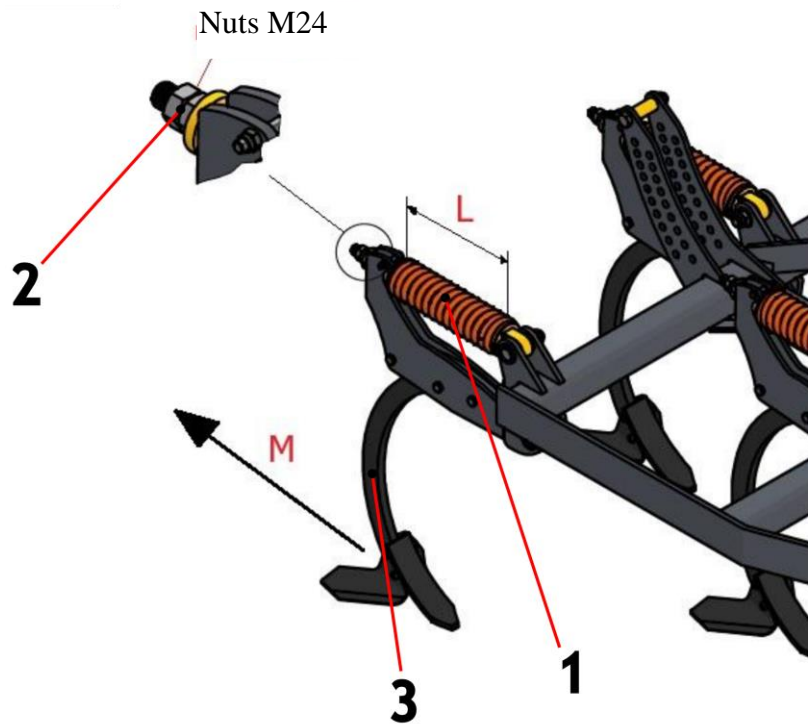

Figure 14 Spring system (1 - system spring, 2 - M24 nuts, 3 - plough beam; L - spring length; M - force and direction of system initiation)
The user can vary the initiation force of the spring system by adjusting the length of the spring in the system. To do this, adjust the length of the spring with the M24 nuts (Figure 14 item 2) by tightening or unscrewing them. Tightening shortens the spring and consequently increases the force required to excite the system. Once the nut is unscrewed, the situation is reversed.